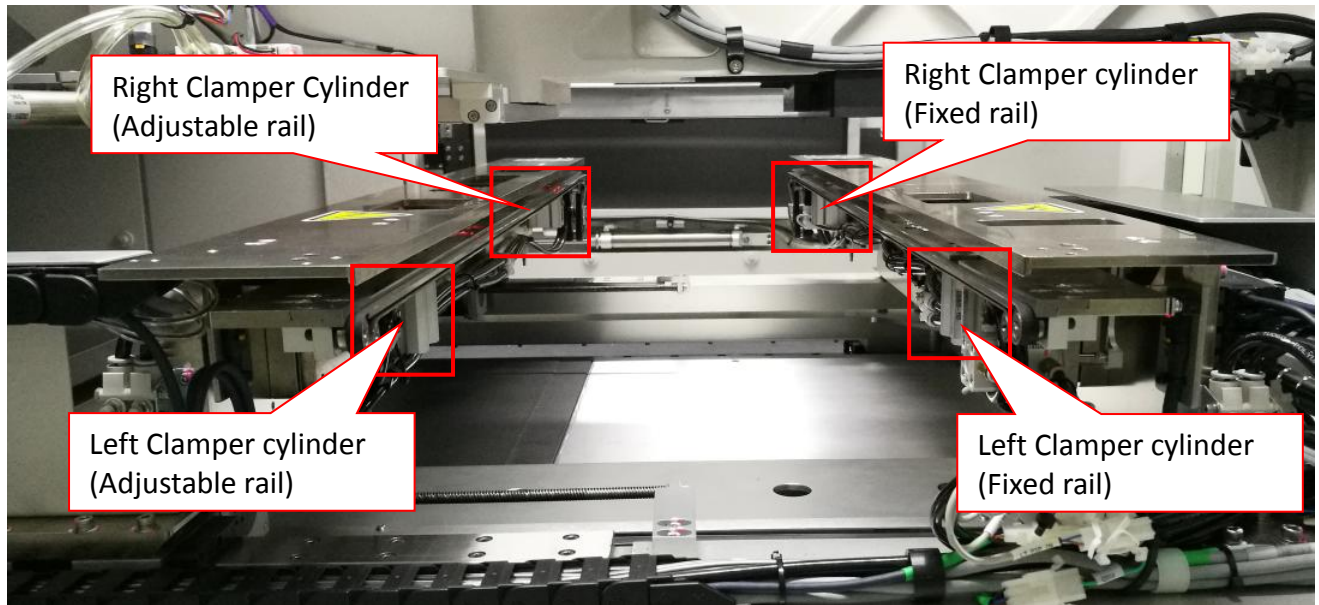

Figure 3 Clamper Cylinder Location
5. Identify defective Clamper Cylinder location by refer to Figure 3.